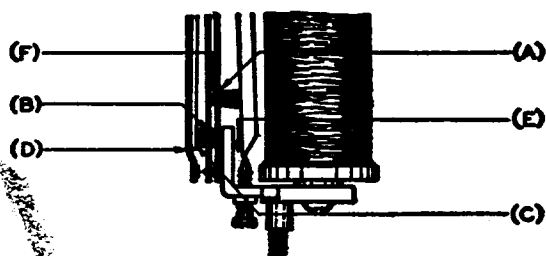

Fig. 1 — 162-type Relay — Top View
1.01 *Armature Stud Clearance:* Fig. 1 (A) — Not touch springs in any position.
1.02 *Traveling Spring Position:* Fig. 1 (B) — Not rub on rubber stops.
1.03 *Stop Spring Position:* Fig. 1 (C) — Rest on the rubber stops.
1.04 *Flexible Front Contact Spring Position:* Fig. 1 (D) — Rest against stop spring, at least at end nearest contact. Relay unoperated.
1.06 *Armature Travel:* Fig. 1 (E) — Unless otherwise specified in Table 2 or on circuit requirement table armature travel shall be as in Table 1 — 92-type gauge.
1.08 **Stud Gap:** Fig. 1 (F)